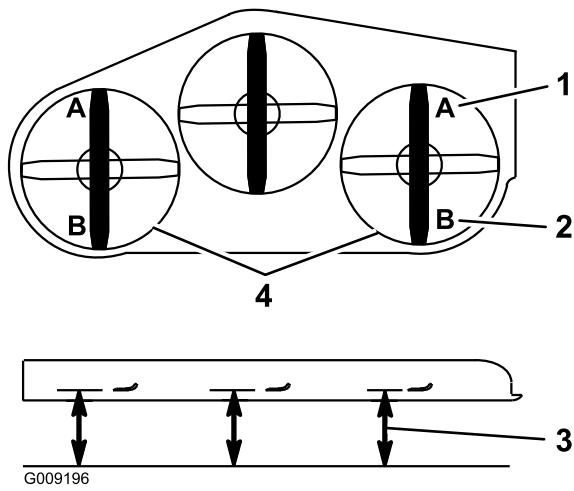

**Figure 93**
5. Push the deck-lift pedal all the way forward and the deck latches at the 14 cm (5 1/2 inches) TRANSPORT position (Figure 93).